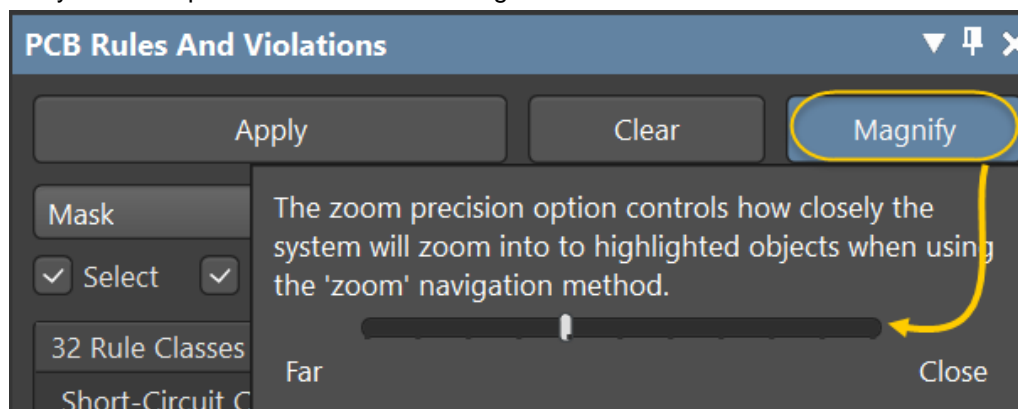

Figure 10. Adjust zoom level
21. Your zoom can be adjusted by clicking on the **Magnify** button and adjusting the slider to your zoom preference as shown in Figure 10.